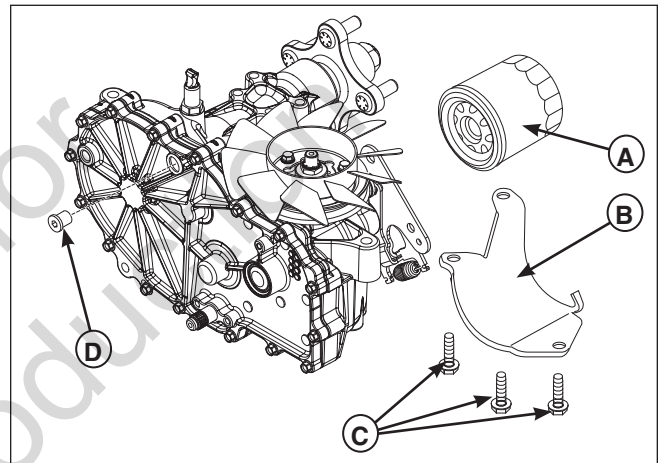

Figure 25. Transmission (Left Side Shown.)
1. Locate the transmission oil filters (A, Figure 25) underneath the rear of the machine on the transmissions.
2. Remove the three 1/4" filter guard screws (C) and the filter guard (B).